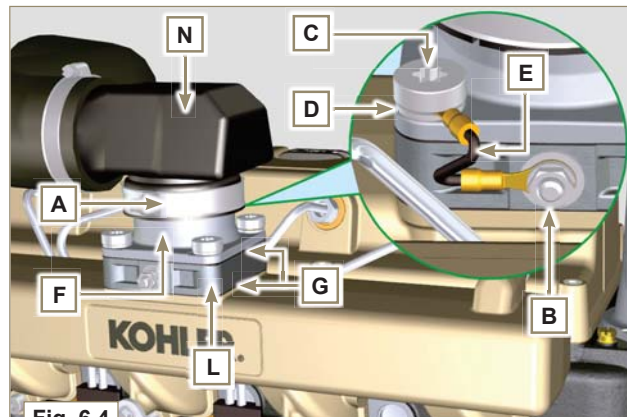

Fig. 6.4
- 7 - Secure the flange **F** with the screws **C** (torque at **25Nm**) (**Fig. 6.4**).